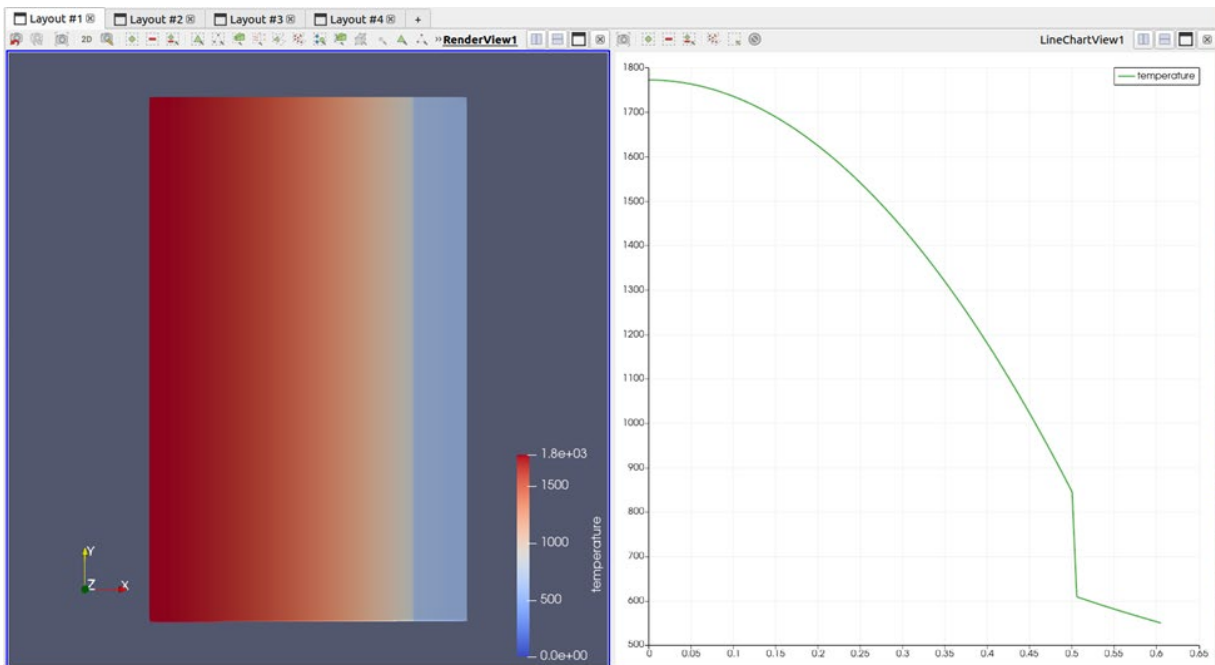

Figure 1. The temperature profile for Steady State Constant k (Problem (1))
The visualized results of problem (1) to (4) are shown in Figure 1 to 4.